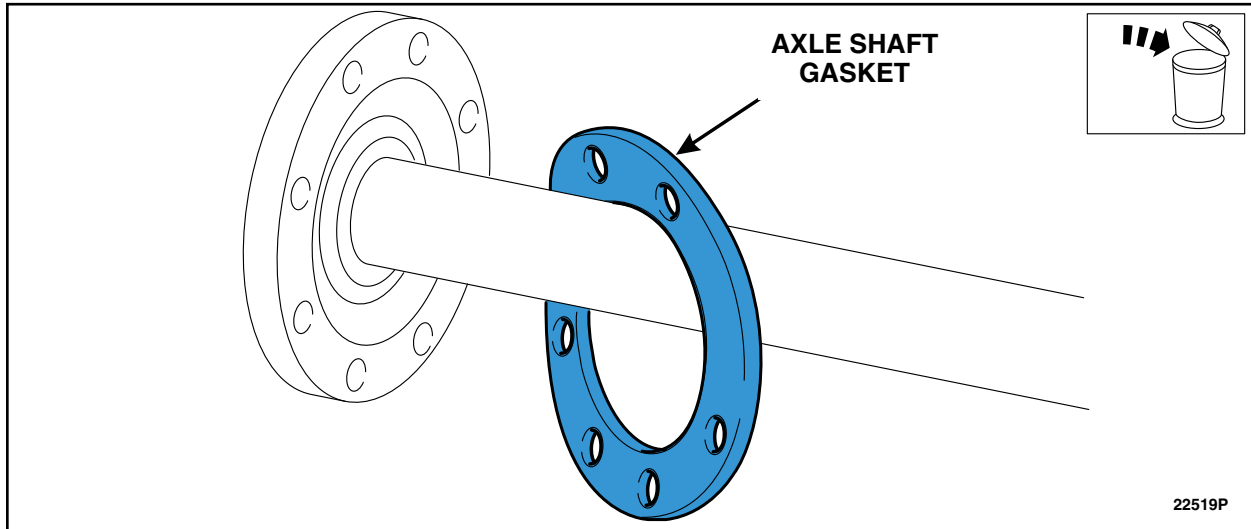

FIGURE 4
- Discard the axle shaft gasket. See Figure 4.